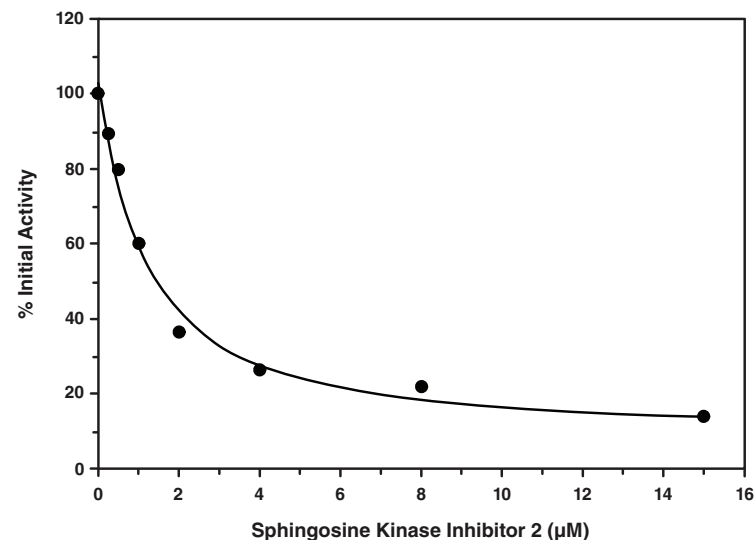

Figure 3. Inhibition of SPHK 1 by SPHK Inhibitor 2 ($IC_{50} = 1.5 \mu\text{M}$)
4. If multiple concentrations of inhibitor are tested, graph either the Percent Inhibition or Percent Initial Activity as a function of the inhibitor concentration to determine the IC_{50} value (concentration at which there was 50% inhibition). An example of SPHK 1 inhibition by SPHK Inhibitor 2 (Item No. 10009222) is shown in Figure 3, on page 13.⁸